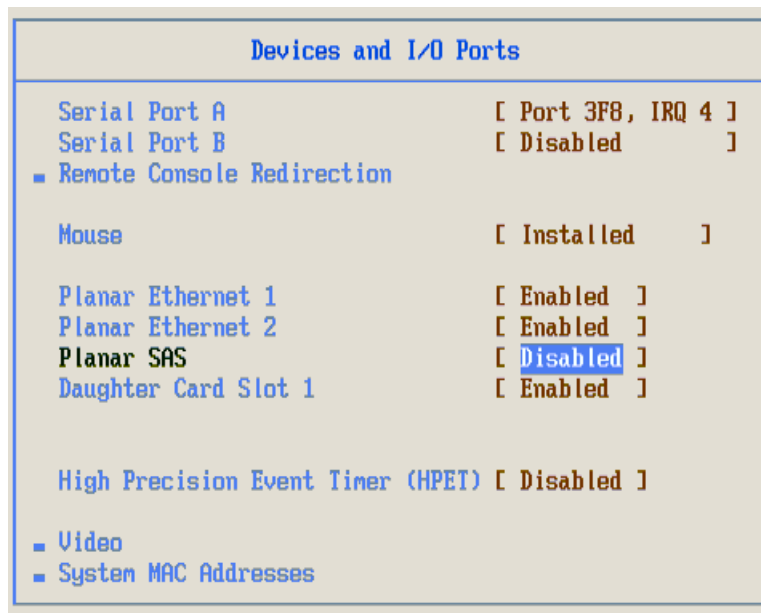

Figure 20-30 Disable Planar SAS
- c. Disable Planar SAS as shown in Figure 20-30.